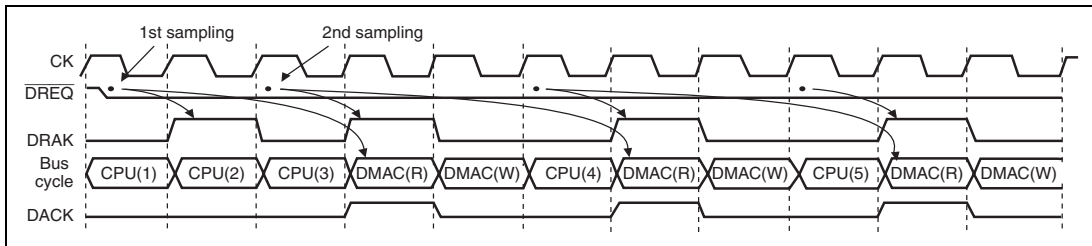
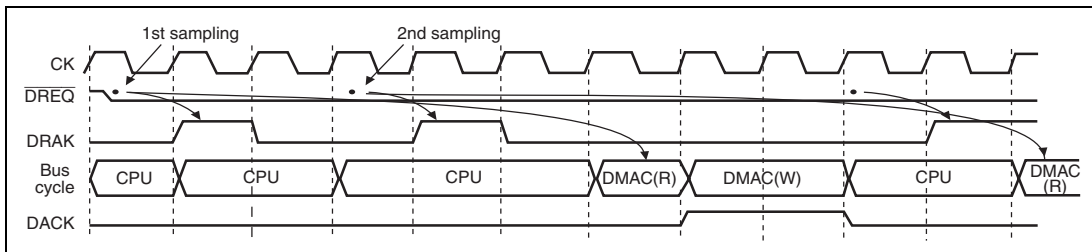

Figure 10.14 Cycle Steal, Dual Address and Level Detection (Fastest Operation)
Figure 10.15 Cycle Steal, Dual Address and Level Detection (Normal Operation)
For example, DMAC transfer begins (figure 10.14), at the earliest, three cycles from the first sampling timing. The second sampling begins at the start of the transfer one bus cycle prior to the start of the DMAC transfer initiated by the first sampling (i.e., from the start of the CPU(3) transfer). At this point, if $\overline{\text{DREQ}}$ detection has not occurred, sampling is executed every cycle thereafter.
As in figure 10.15, whatever cycle the CPU transfer cycle is, the next sampling begins from the start of the transfer one bus cycle before the DMAC transfer begins.
Figure 10.14 shows an example of output during DACK read and figure 10.15 an example of output during DACK write.